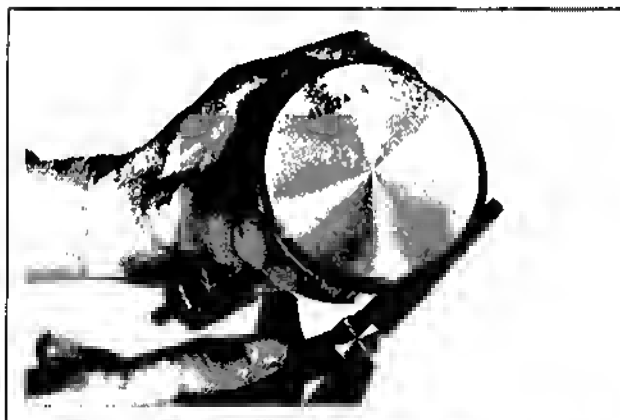

Figure 10-14. Measuring Piston Ring Side Clearance.
4. After installing the new compression (top and middle) rings on piston, check piston-to-ring side clearance. Maximum recommended side clearance is .006". If side clearance is greater than .006", a new piston must be used. Refer to Figure 10-14.